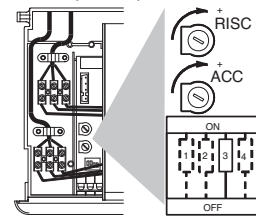

Figure 15.9
- To carry out the adjustment move the function selector 3 to the OFF position (Fig. 15.9) and use the device (ACC).